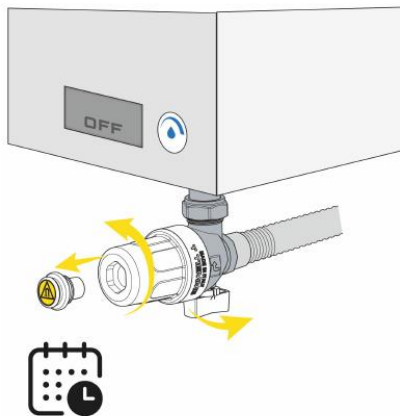

fig. 1
- Close the shut-off valve integrated in the filter and remove the magnet-holding cap (**fig. 1**).